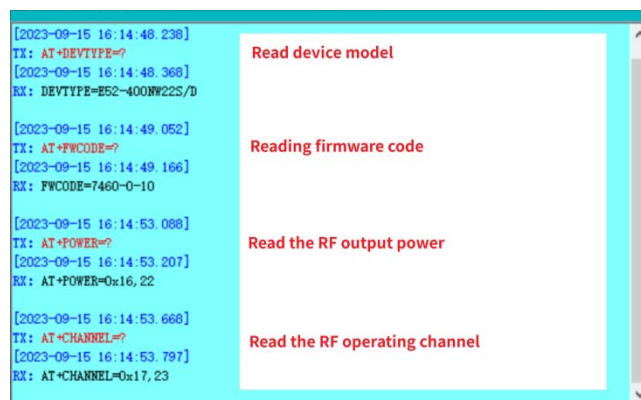

Figure 8.1.2 MCU obtains parameters
- If it is difficult to use the MCU to parse it, the correct operation of the MCU should be obtained using a separate AT command, as shown in Figure 8.1.2.